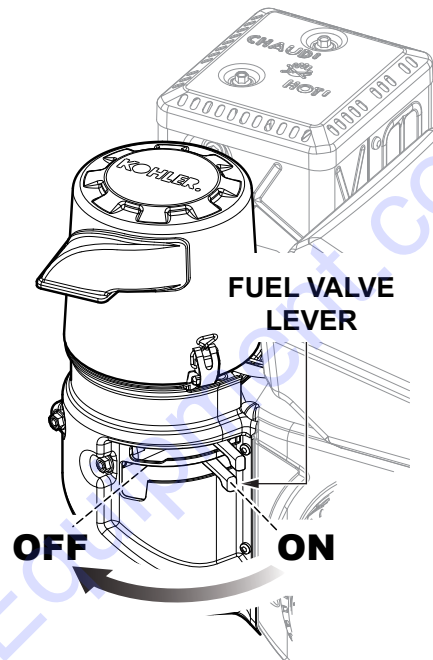

Figure 25. Fuel Shut-Off Lever (OFF)
3. Place fuel shut-off lever (Figure 25) in the **OFF** position.